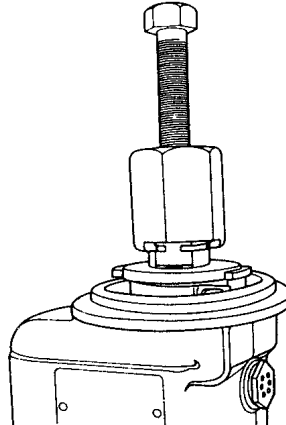

Figure 7.3A
- E. Engage T106 Puller into grooves in the hub assembly. Tighten T106 Puller bolt and remove impulse coupling hub assembly. (See Figure 7.3A).